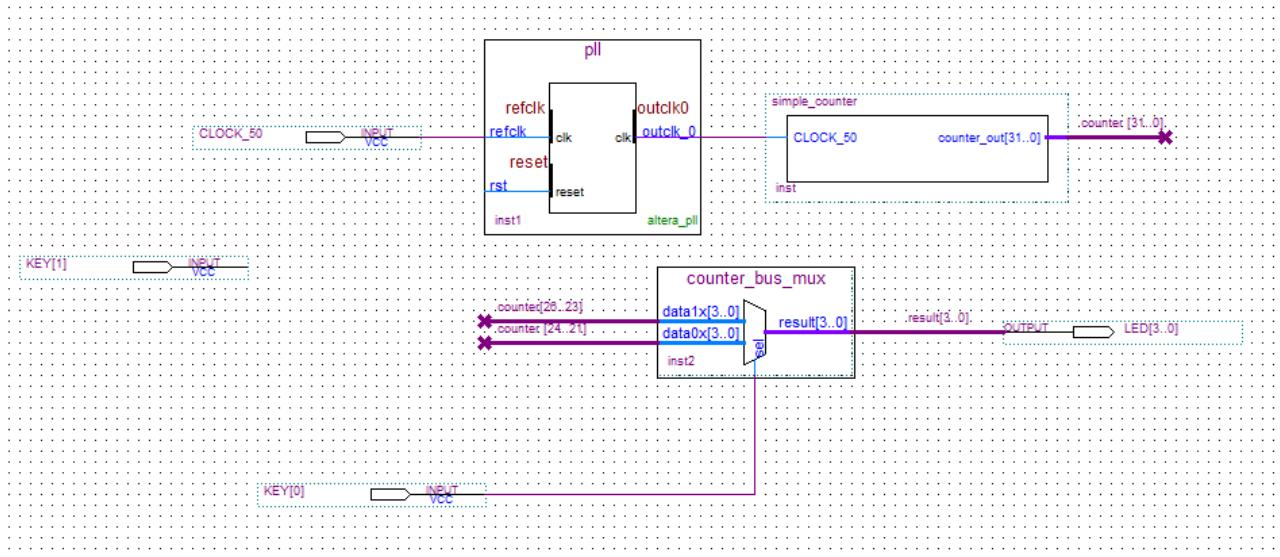

Figure 3-29 Adding the KEY [1:0] Input Pin
23. Place another input pin at the left of the pll and rename it as KEY[1] (see Figure 3-29).